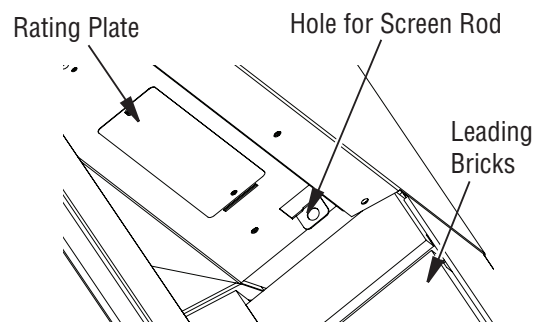

Figure 23 - Installing Fireplace Screen
2. Insert the round end screen rod into hole on the left and right side of smoke shelf (Figure 23).